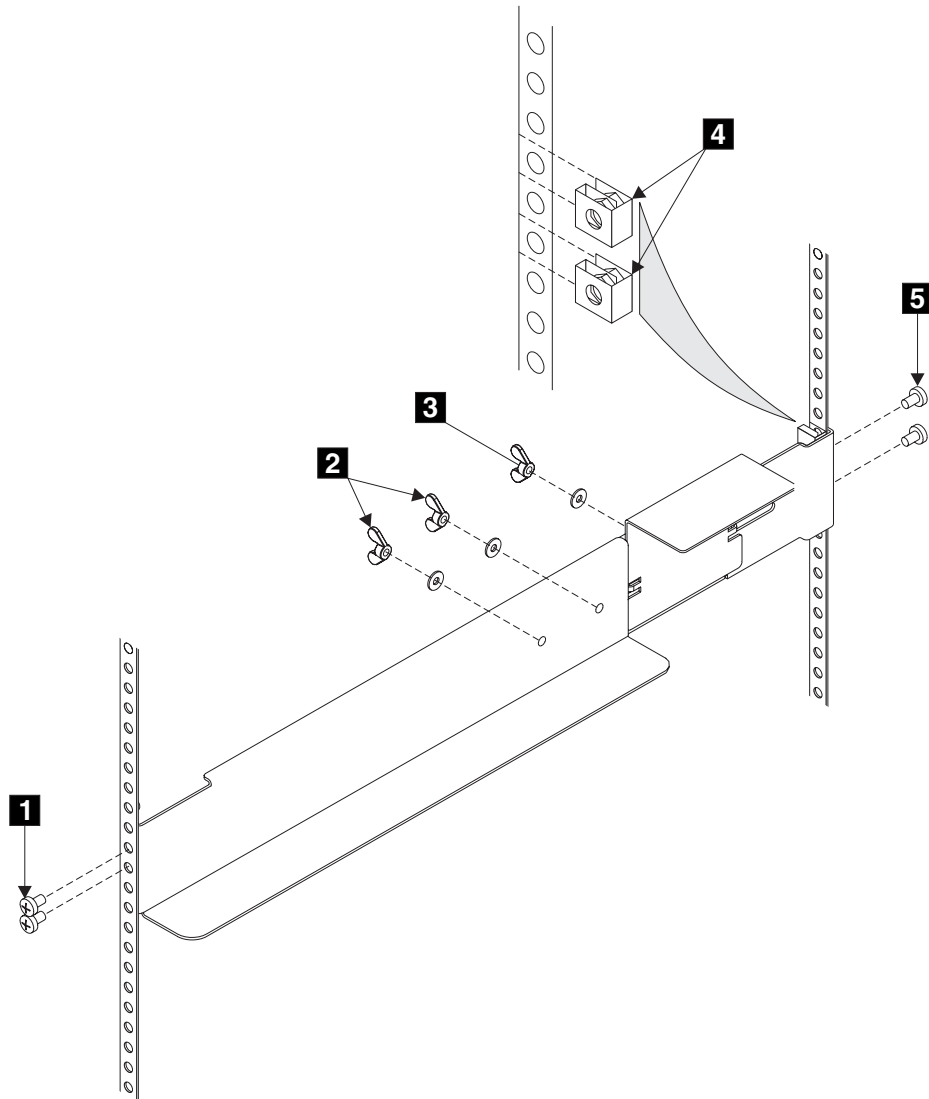

Figure 29. Installing support rails for a 2145 UPS into the rack
1. Attach nut clips **4** to the rack (see Figure 29 on page 66). These nut clips must align with the second and fourth holes of the support rail flange.